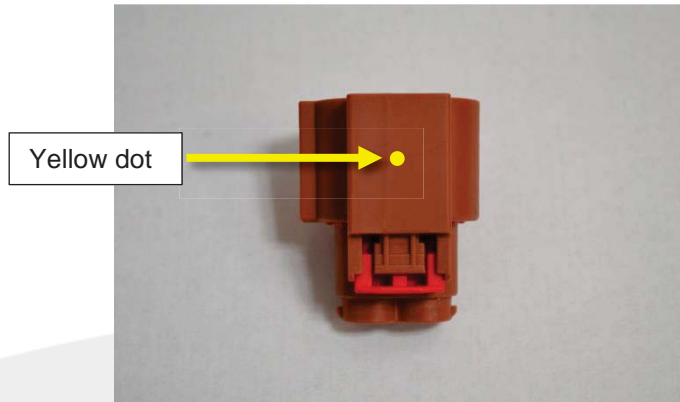

Figure 10
8. Verify that the replacement connector is identified by a yellow dot (Figure 10).